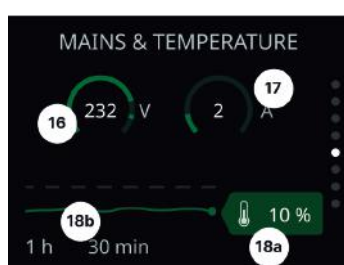

Fig. 1.10 - Mains & Temperature page
The Mains and Temperature page (Fig. 1.10) displays the mains voltage (16) and the current draw (17). A temperature indicator (18a) shows the percentage of the current temperature relative to the high-level threshold. When the temperature rises to the high level (19), the device limits its outputs to avoid an over-temperature state (20).